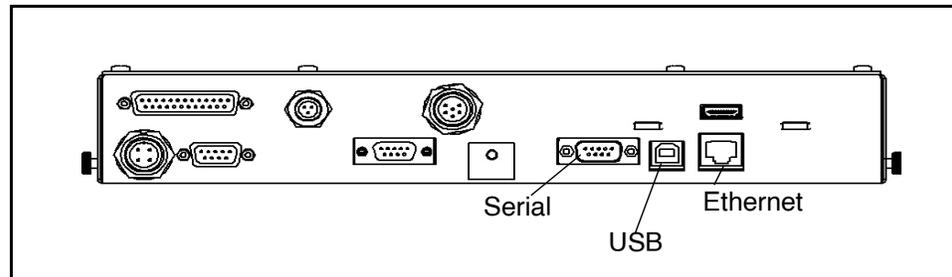

Figure 14
2. Connect the Ethernet cable (supplied) to the Cubiscan 325's Ethernet port, as shown in Figure 14.
1. Connect the USB cable to the Cubiscan 325's USB port located on the controller box, as shown in Figure 14.
2. Connect the serial cable to the Cubiscan 325's serial port, as shown in Figure 14.